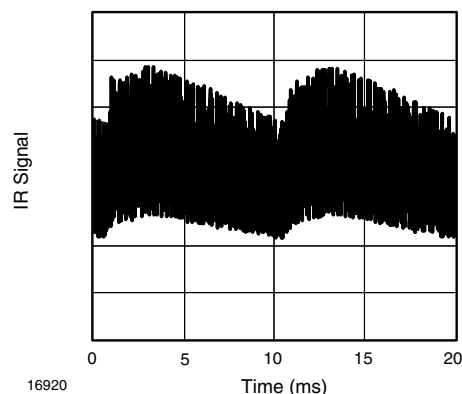

Fig. 14 - IR Signal from Fluorescent Lamp with Low Modulation
- Strongly or weakly modulated noise from fluorescent lamps with electronic ballasts (see fig. 14 or fig. 15)